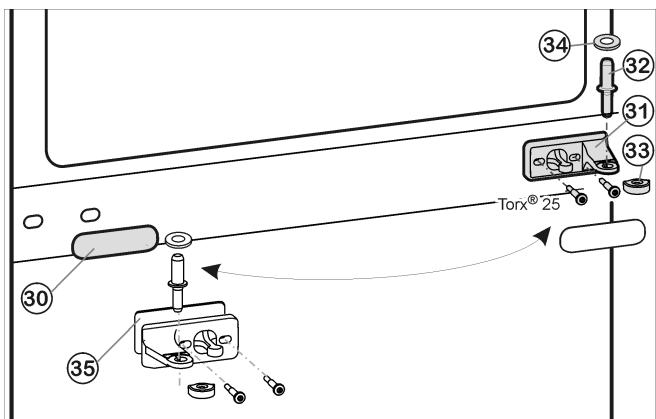
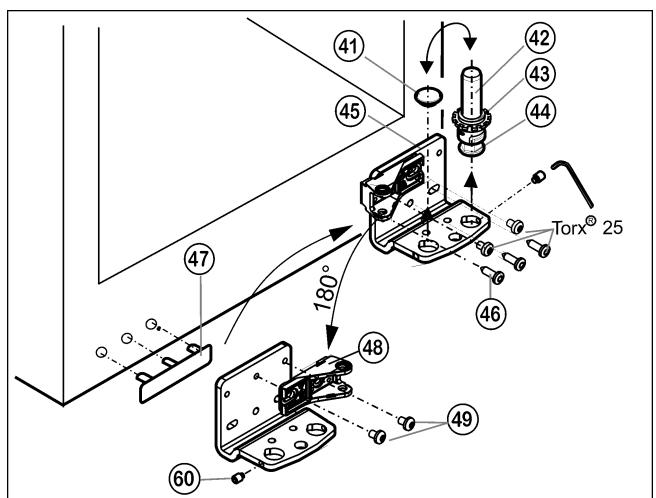

Fig. 12
Fig. 13
- ▶ Pull center bearing pin Fig. 12 (32) and disc Fig. 12 (34) out of the bearing bracket and the lower door.
- ▶ Remove plastic cap Fig. 12 (33).
- ▶ Unscrew center bearing bracket Fig. 12 (31) (2 x Torx® 25).
- ▶ Carefully remove cover trim *Fig. 12 (30)*.
- ▶ Turn the center bearing bracket *Fig. 12 (31)* and washer *Fig. 12 (35)* 180° and secure **tightly (to 4 Nm)** on the new hinge side.
- ▶ Turn the cover trim *Fig. 12 (30)* 180° and snap it back into place on the new handle side.
- ▶ Unscrew grub screw *Fig. 13 (60)* by approx. 1 turn using the socket wrench supplied.
- ▶ Unscrew the bearing pin *Fig. 13 (42)*, with disc *Fig. 13 (43)* and positioning foot *Fig. 13 (44)*, in an upwards direction.
- ▶ Lift off plug *Fig. 13 (41)*.
- ▶ Unscrew *Fig. 13 (46)*bearing bracket *Fig. 13 (45)*.
- ▶ Completely unscrew the grub screw *Fig. 13 (60)* and screw it into the opposite side of the bearing bracket until it is externally flush with the bearing bracket.
- ▶ Unscrew bearing part *Fig. 13 (48)*, turn it 180° and tighten *Fig. 13 (49)* it to the inside.
- ▶ Insert plug *Fig. 13 (41)* back into the other hole.
- ▶ Carefully lift off the cover on the handle side *Fig. 13 (47)* and move it to the opposite side.
- ▶ Using a cordless screwdriver if necessary, again secure the bearing bracket *Fig. 13 (45)* on the new hinge side **tightly (to 4 Nm)**.
- ▶ Screw complete bearing pin *Fig. 13 (42)*, with disc and positioning foot, back into place again.
- ▶ Tighten grub screw *Fig. 13 (60)*.
- ▶ Position the lower door from above onto the lower bearing pins *Fig. 13 (42)*.
- ▶ Place the plastic cap *Fig. 12 (33)* back onto the center bearing bracket *Fig. 12 (31)*.
- ▶ Insert the center bearing pin *Fig. 12 (32)* on the new hinge side through the center bearing bracket *Fig. 12 (31)* into the lower door.
- ▶ Place disc *Fig. 12 (34)* onto the center bearing pin *Fig. 12 (32)*.
- ▶ Place the upper door onto the center bearing pin Fig. 12 (32).
- Align the doors flush with the appliance housing, using the two oblong holes in the lower bearing bracket Fig. 13 (45) and in the center bearing bracket Fig. 12 (31) as a guide, if needed. To do so, unscrew the center screw on the lower bearing bracket Fig. 13 (45).